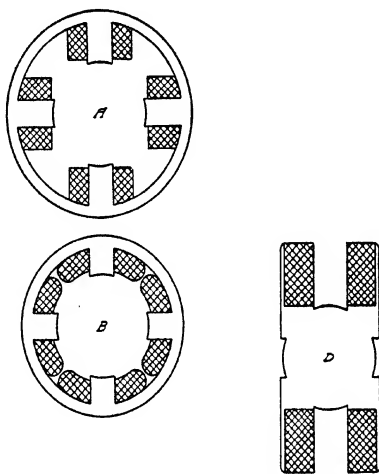

Fig. 154. Cross-Sections Typical Electric Starting Motor
**Standard Designs.** Briefly stated, the electrical requirements demand a concentrated and correctly proportioned mass of iron and copper in the minimum space. The cross-sections, Fig. 154, show how these requirements have been met in various instances. As the motor is only required to operate for very short periods, both the conductors and insulation can be kept down in size as compared with a motor designed to run constantly under heavy load.
shortest magnetic circuit. Consequently, shallow windings with long flat pole pieces are more efficient than the reverse of this form, particularly as air space in the magnetic field lessens its intensity and calls for a heavier winding to magnetize the extra weight of metal to the same degree. Hence, the type represented by *B*, Fig. 154, is the most efficient, in theory at least, of the four forms illustrated.
exemplifies type *B* referred to above, except that it is bipolar. Windings and pole pieces of the same type are shown in the Westinghouse starting motor, Fig. 156, this being patterned after form *D* in Fig. 154, though it is of somewhat broader section. The auxiliary